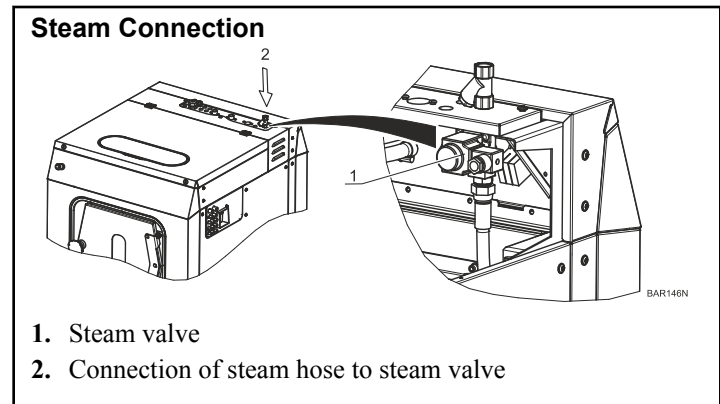

Figure 35
1. For dimensions of steam connection information, refer to *Figure 35* and *Table 3*.